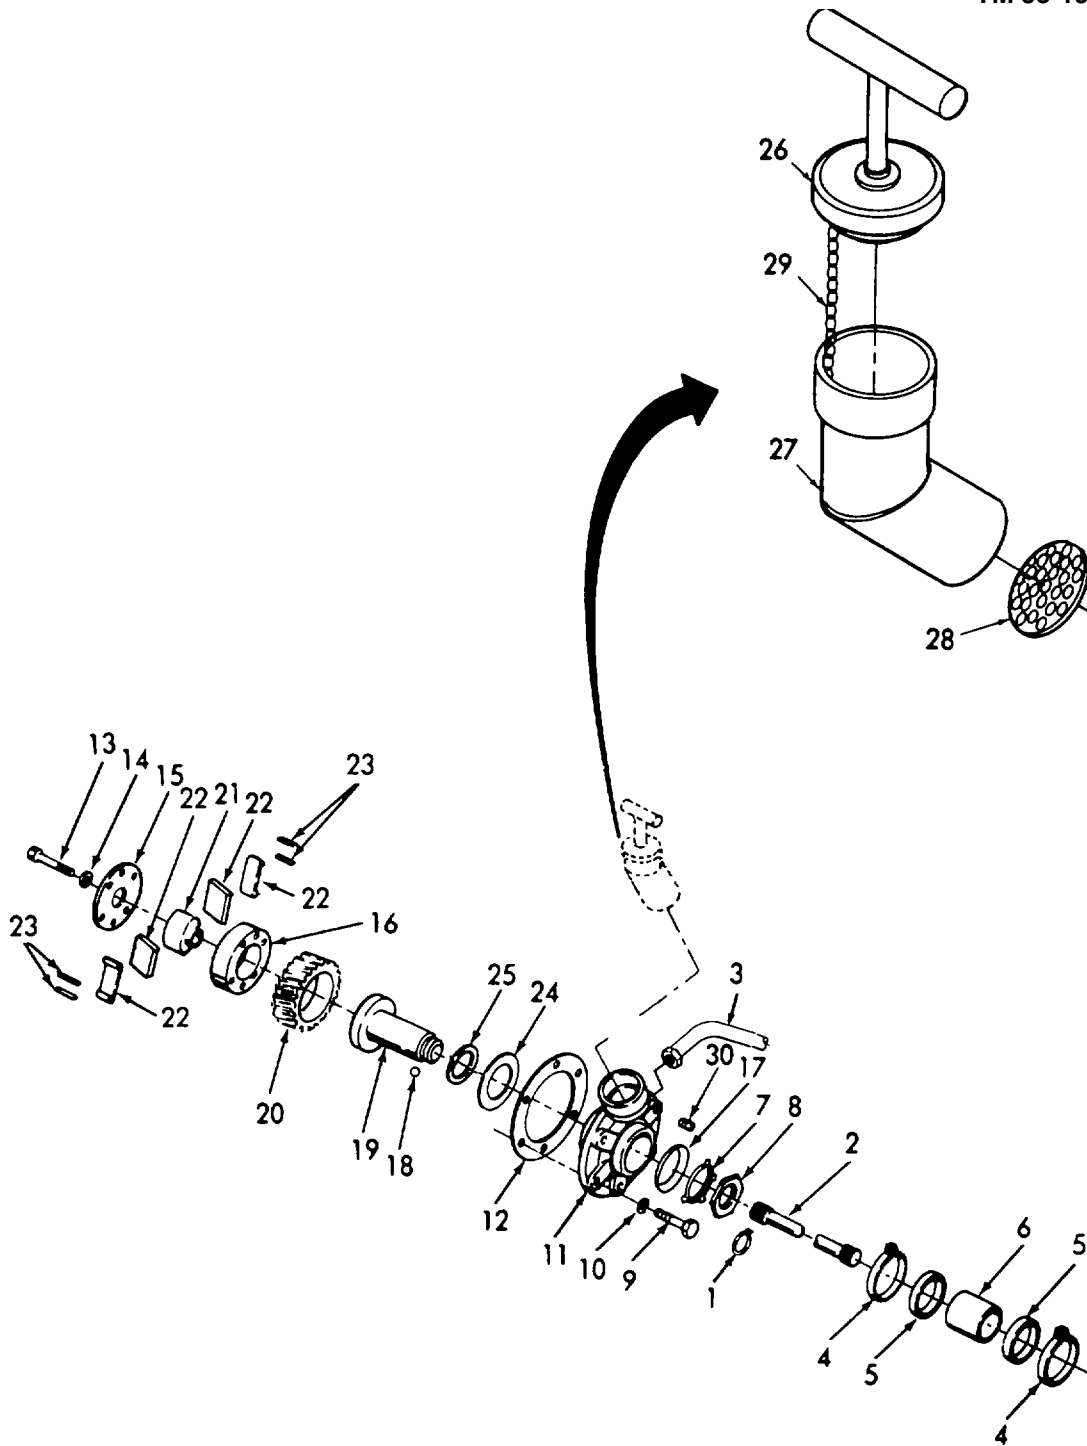

Figure 3-44. Blower Drive, Removal, Disassembly, Reassembly, and Installation.
**3-20. BLOWER DRIVE - Continued.**a. Removal. (Refer to figure 3-44).
- (1) Remove the six bolts that secure the flywheel housing small hole cover.
- (2) Remove snap ring (1). Pull blower drive shaft (2) out of the drive assembly.
- (3) Disconnect blower drive oil line (3) from blower drive support.
- (4) Loosen hose clamps (4) and remove gaskets (5) and bushing (6).
- (5) Straighten the ears on lockwasher (7) and loosen drive gear hub nut (8).
- (6) Remove blower drive support attaching bolt (9) and lockwashers (10).
- (7) Loosen blower drive support (11) by tapping it lightly and withdraw the support from the cylinder block rear end plate. Take care to prevent damage to blower drive gear teeth. Discard gasket (12).
- (1) Refer to figure 3-44 and secure blower drive gear and support assembly in a vise with soft jaws.
- (2) Take out drive coupling bolts (13) and lockwashers (14) and remove retainer (15) and coupling support (16).
- (3) Remove drive gear hub nut (8), lockwasher (7), thrust washer (17), and lock ball (18).
- (4) Press gear hub (19) out of gear (20).
- (5) Remove cam follower (21), springs (22), and seats (23) from coupling support (16).
- (6) Remove thrust washer (24) and bearing (25) from housing.
- (7) Remove oil filler cap (26), oil filler tube (27), and strainer (28) from housing.
- (8) Disconnect chain (29) from filler cap and tube.
- (9) Remove plug (30) from housing.
- (1) Refer to figure 3-44 and install plug (30) in housing.
- (2) Attach chain (29) between oil filler cap (26) and oil filler tube (27). Install filler cap and filler tube with strainer (28) in housing.
- (3) Press drive gear hub (19) into drive gear (20).
- (4) Lubricate drive gear hub, bearing (25) in the housing, thrust surfaces, and thrust washer with engine oil (item 8, Appendix C).
- (5) Place thrust washer (24) on the protruding bearing in gear side of housing and insert drive gear and hub assembly.
- (6) Locate lock ball (18) in its place on drive gear hub and slide thrust washer (17) into position over lock ball. Thrust washer must be installed with tapered face toward the threads on the hub.
- (7) Install new lockwasher (7) and finger tighten hub nut (8). Install two bolts into threaded holes in drive gear hub. Place a suitable holding bar across bolts to keep hub from rotating and tighten hub nut to 50-60 lb-ft (68-81 Nm). Bend the ears of lockwasher against the nut, to lock the nut in place. Remove two bolts from gear hub.